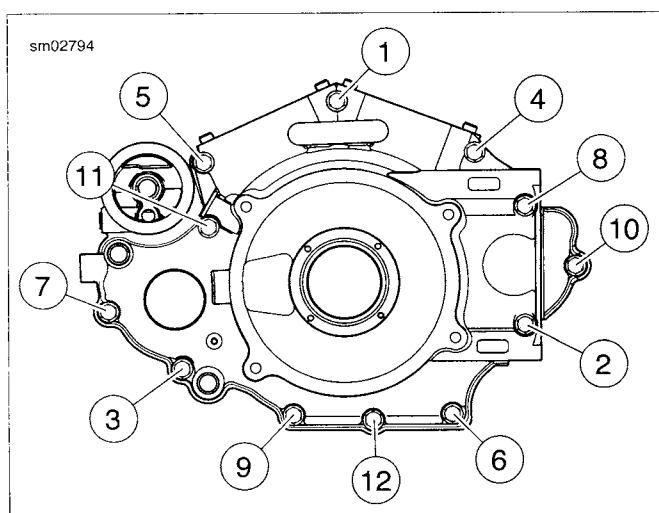

Figure 3-57. Crankcase Bolt Sequence
4. See Figure 3-57. Remove the twelve crankcase bolts in the sequence shown.